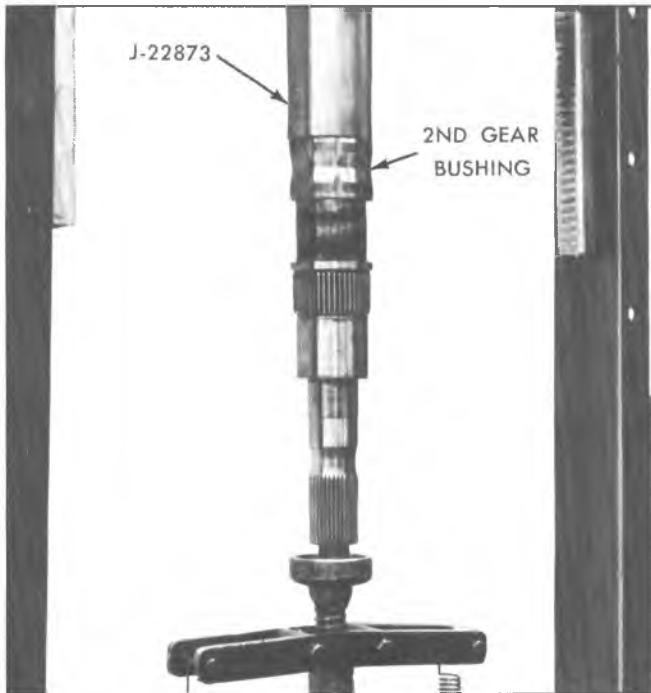

Fig. 16Q-Installing 2nd Speed Gear Bushing
1. Using Tool J-22873 press 2nd speed bushing onto mainshaft until it bottoms against shoulder (fig. 16Q).